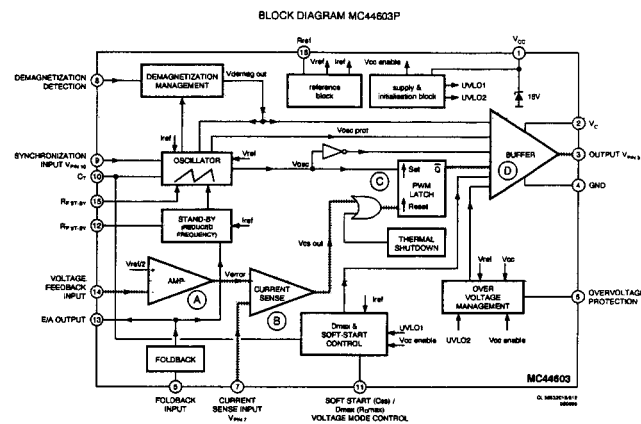
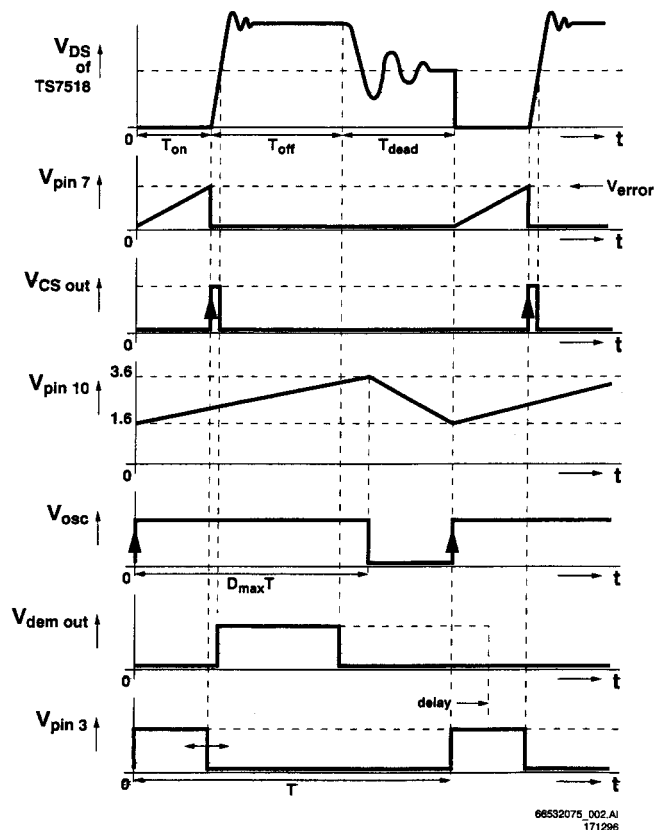

Fig. 9.2
Fig. 9.3
9.3.5 IC7520 control (see Fig. 9.2 and Fig. 9.3)
The error amplifier (block A in Fig 9.2) compares the feedback voltage V_{pin14} with an internal reference voltage of 2V5. The output voltage $V_{error-out}$ of this error amplifier is fed to another comparator (block B in Fig 9.2). This comparator compares the $V_{error-out}$ and the current sense voltage V_{pin7} . As soon as the current sense voltage V_{pin7} becomes higher than the output-voltage of the error amplifier $V_{error-out}$, the comparator B gives a spike (the output of comparator B is the so called current sensing output-voltage $V_{cs out}$).
Flip flop (block C in Fig 9.2) drives the output pin 3 (V_{pin3}) via a buffer amplifier (block D). The flip flop is set by positive edge of the output of the oscillator (V_{osc}) and reset by the spike $V_{cs out}$. As a result the pulse V_{pin3} becomes "high" (T-on starts) by the positive edge of V_{osc} from the internal oscillator and "low" (T-on stops) by the spike of $V_{cs out}$ (the T-on start will be delayed in case the transformer is not yet demagnetised; see the slow-start procedure).
9.3.7 Stable load and increasing / decreasing load (see Fig. 9.3);